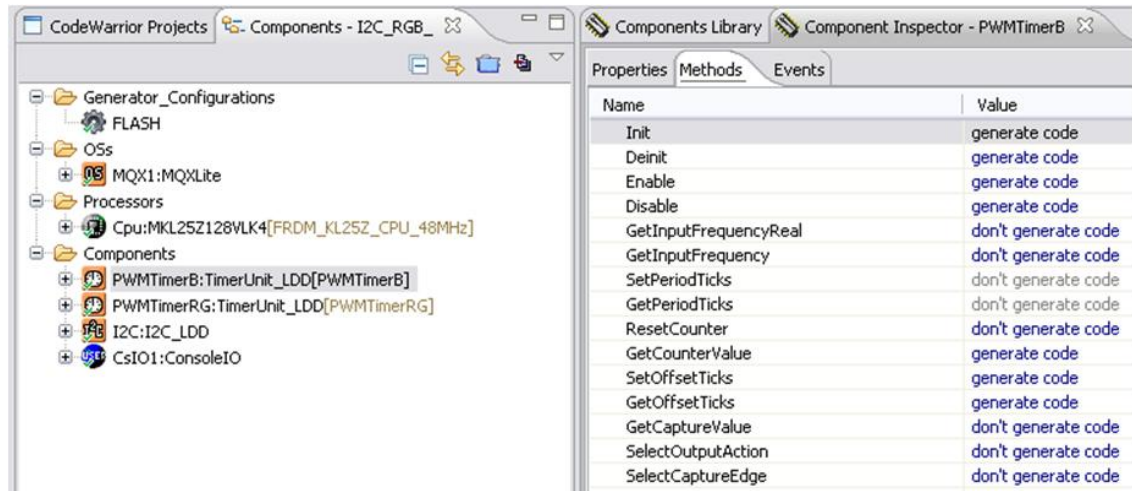

Figure 35. "PWMTimerRG" and the "PWMTimerB" methods creation definition
- For the “TimerUnit_LDD” components it is necessary to define the functions to be added by the auto-generated code. To do this, click in the “Methods” tab under the Component Inspector. These settings shall apply for the “PWMTimerRG” and the “PWMTimerB”. Figure 35 illustrates the right configuration for the methods creation.